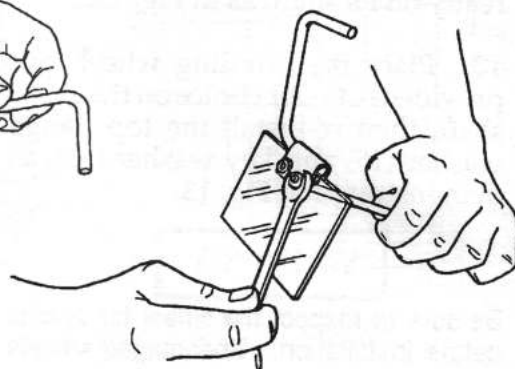

Fig. 6
6. Use a 3/8" wrench and a Phillips screwdriver to tighten both hex nuts. See Fig. 6. **Do not overtighten.** Tighten **only enough** so the shield moves on the bar but still securely holds position.